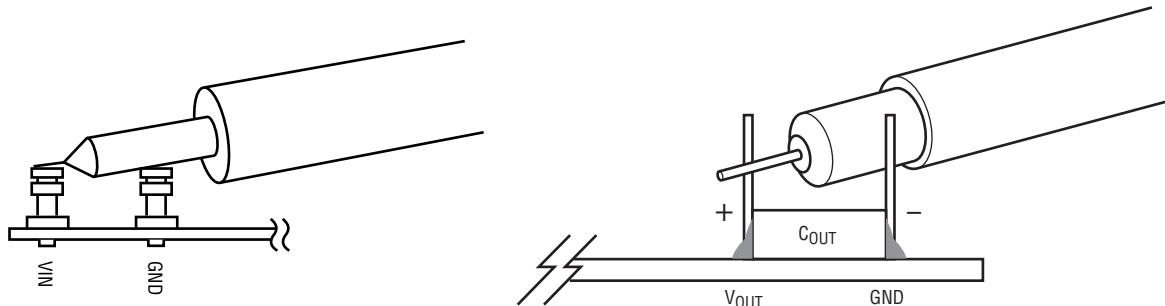

Figure 2. Measuring Input or Output Ripple Across Terminals or Directly Across Bulk Capacitor
**NOTE.** When measuring the input or output voltage ripple, care must be taken to avoid a long ground lead on the oscilloscope probe. Measure the input or output voltage ripple by touching the probe tip directly across the  $V_{IN}$  or  $V_{OUT}$  and GND terminals or directly across relevant capacitor. See Figure 2 for proper scope probe technique.